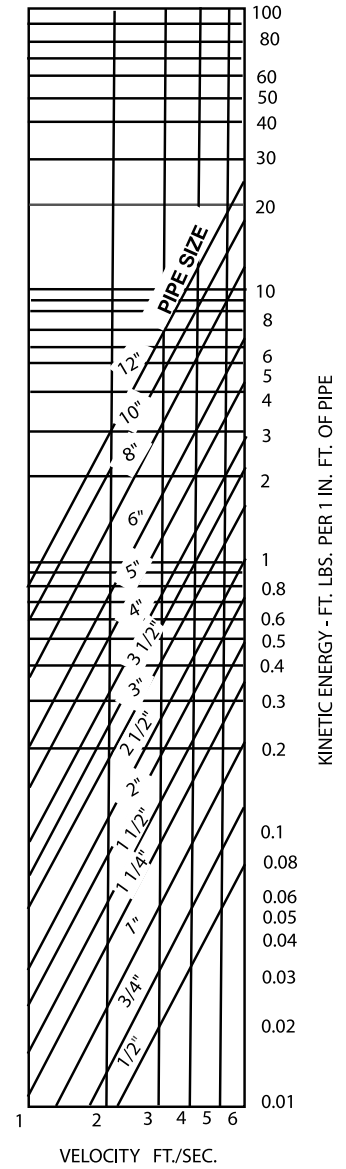

Figure 2
- Determine the kinetic energy (KE) per lineal foot of pipe from Figure 2.
- Obtain total kinetic energy (KE) from the equation: